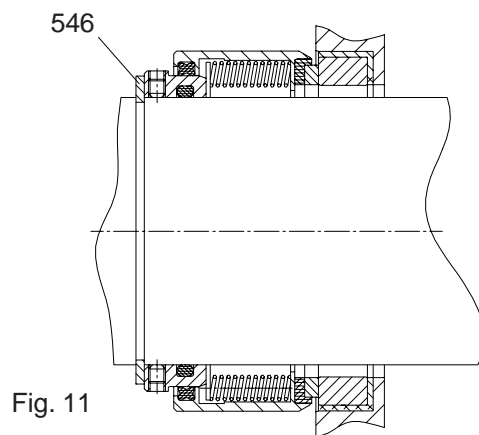

Fig. 11
**d) Stainless-steel-shroud seal - type "X" (Fig. 11)**